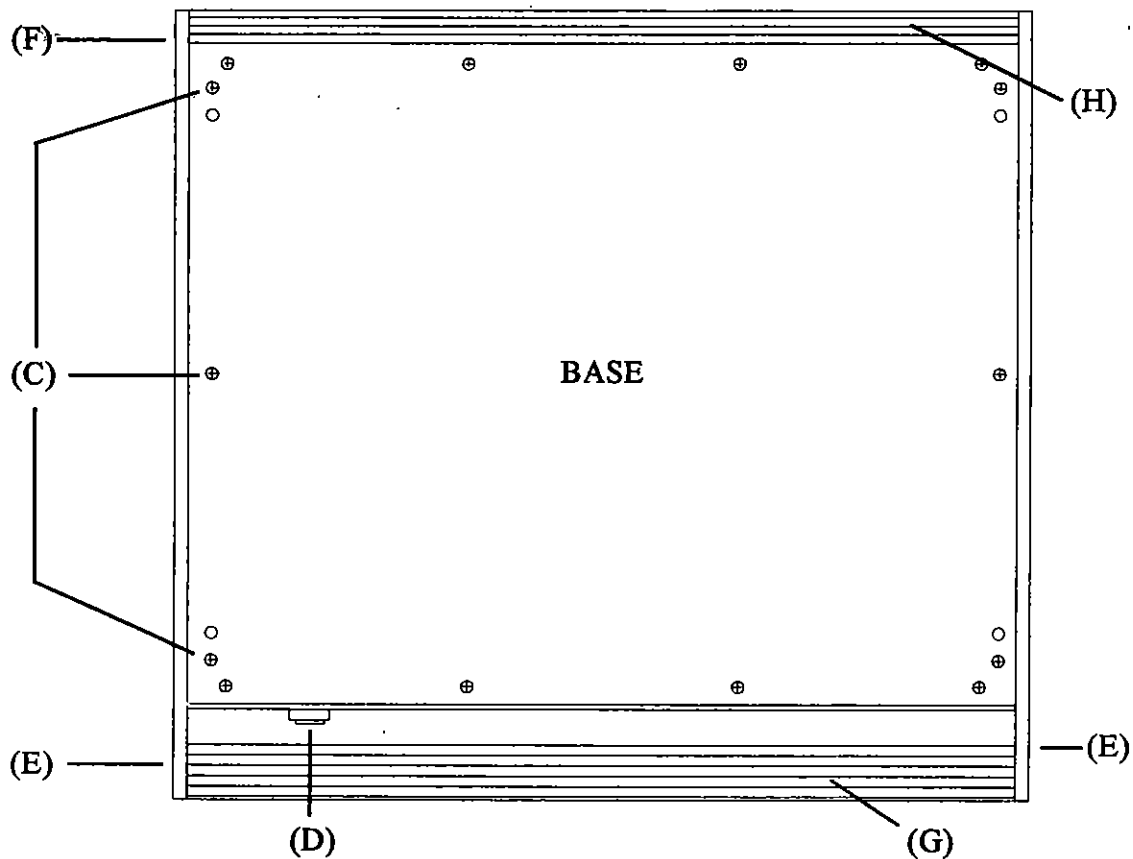

Fig. 1b.
3. Turn the console upside down. *see Fig. 1b*. Remove all of the base retaining screws (C). Lift the base clear of the console.
4. Unscrew the headphones socket, jack nut and washer (D) from the front extrusion (G) and move the jack socket clear of the extrusion.
5. Using the M6 hex key provided, remove the 6 hex screws holding the front extrusion to the side trims (E). Carefully lift the front extrusion clear of the console and place it to one side.
6. Remove the 3 hex screws (F) from the top of the left-hand side trim. Lift the side trim clear of the console and place it to one side.
7. Lift the rear extrusion (H) and right hand side trim just clear of the console.